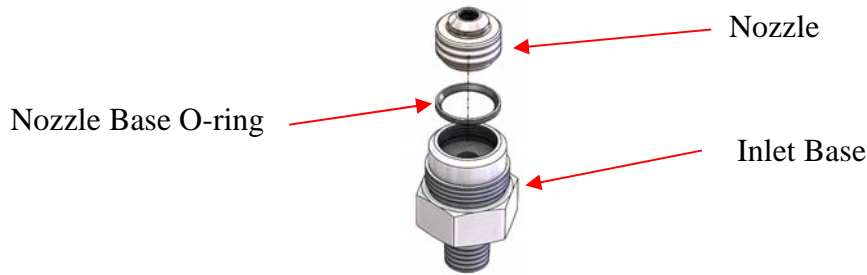

Figure 14: Nozzle/Seat Subassembly of Bottom Entry Valve
9. Remove and discard the nozzle base o-ring. See Figure 14.
- 9. Remove and discard the nozzle base o-ring. See Figure 14.